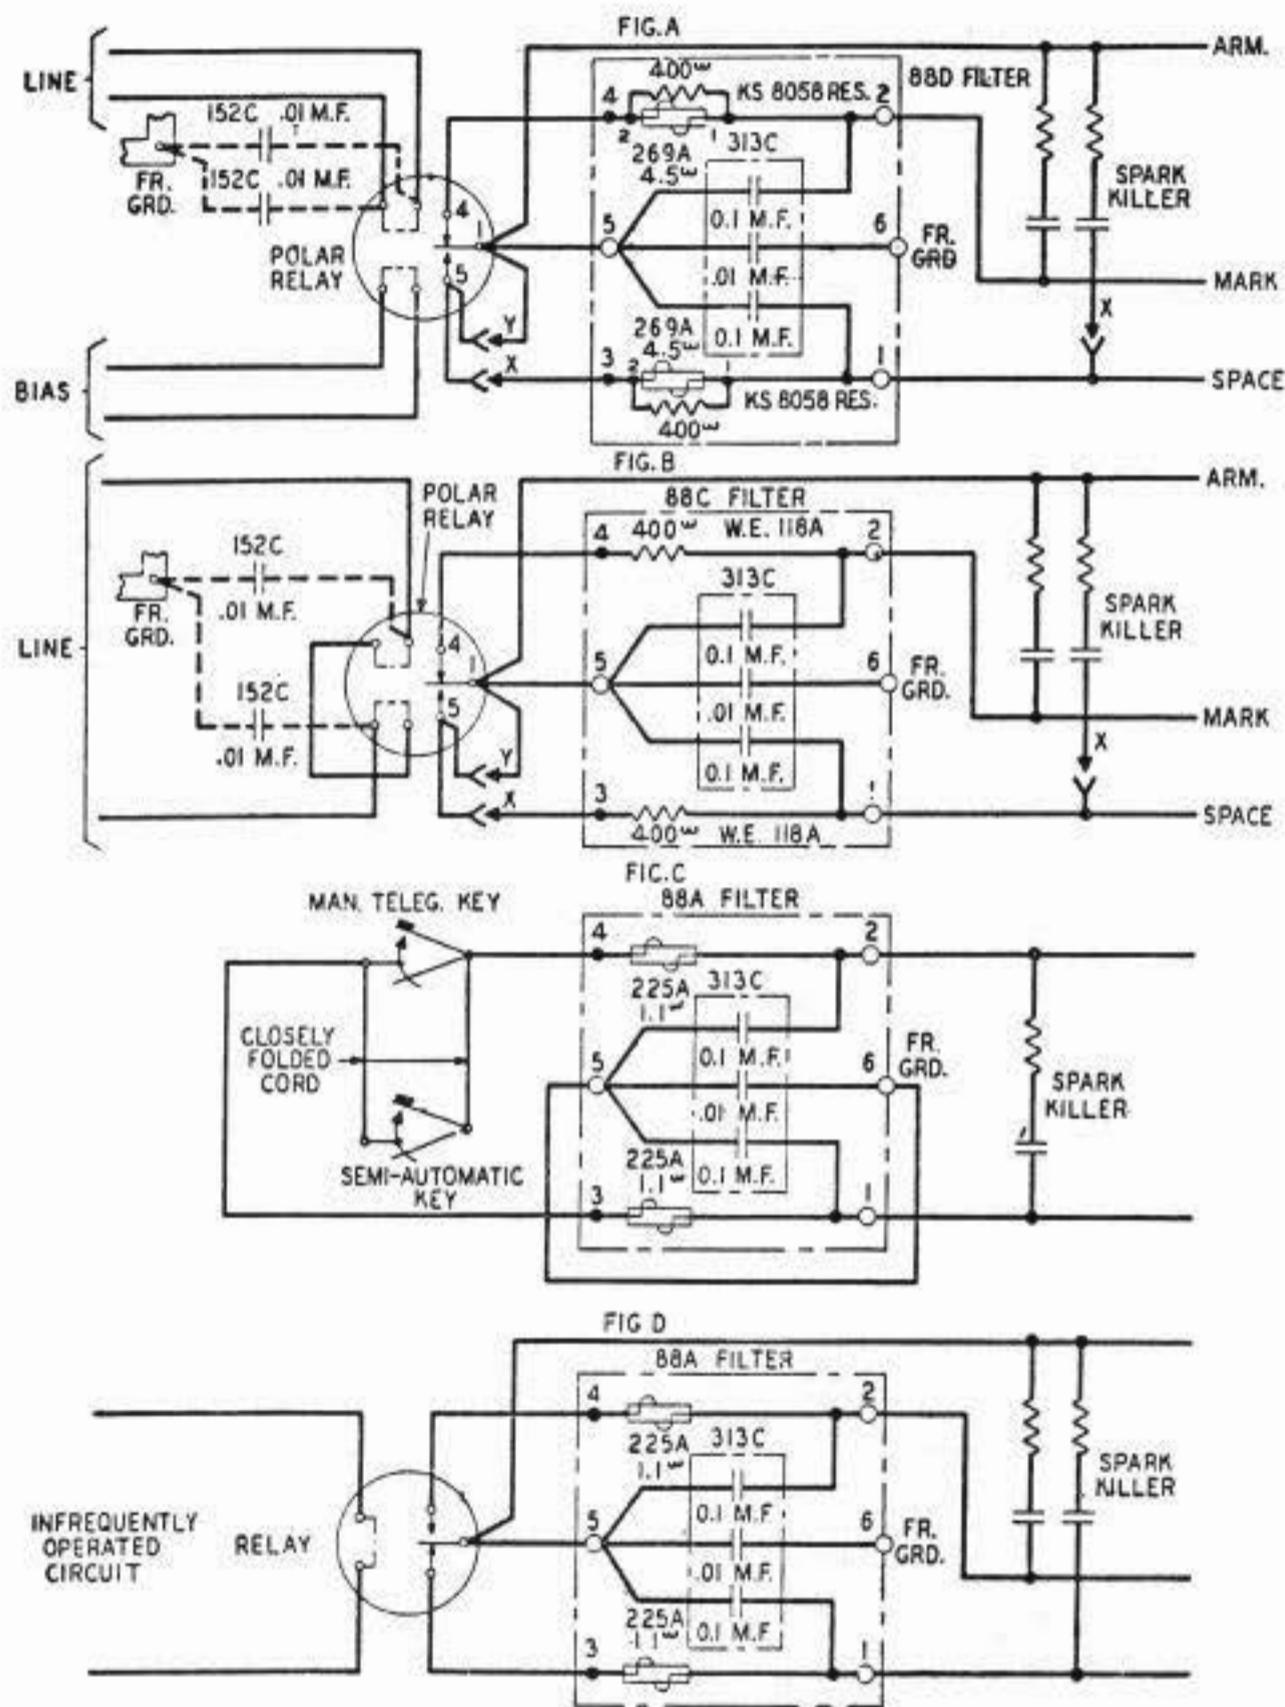

Fig. 2
2.02 The connection of the 88 type filter units is shown in Fig. 2 for various contact arrangements. The type of filter and connection used may be dictated by the circuit conditions in which the filter is to function. Any of the 88 type filters may be used in any of the applications illustrated. In view of the lower price of the 88C filter it would be chosen in preference to the 88D in any application unless the 400-ohm
88D filter would be the choice for all contacts of low area and operating pressures required to open and close more often than three or four thousand times a day where the 4.5 ohm series resistance offers advantages over the 400 ohms of the 88C filter. It should be noted that in cases where a relay armature transfers between an idle contact and another which is used to perform a circuit function, the idle contact should be connected to the armature as shown in the Y wiring of Fig. 2.